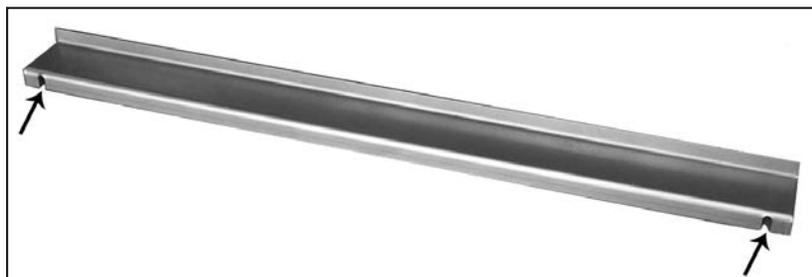

Figure 67: Brick panel bracket, slots shown.
1. Remove the two (2) screws from the rear of the baffle, use a ¼" socket or a flat head screwdriver. Place the provided brick bracket (Figure 67) at the rear of the baffle with the slots over the screw holes (see Figure 68). Insert two (2) of the provided screws into the two (2) holes along the bottom of the baffle.